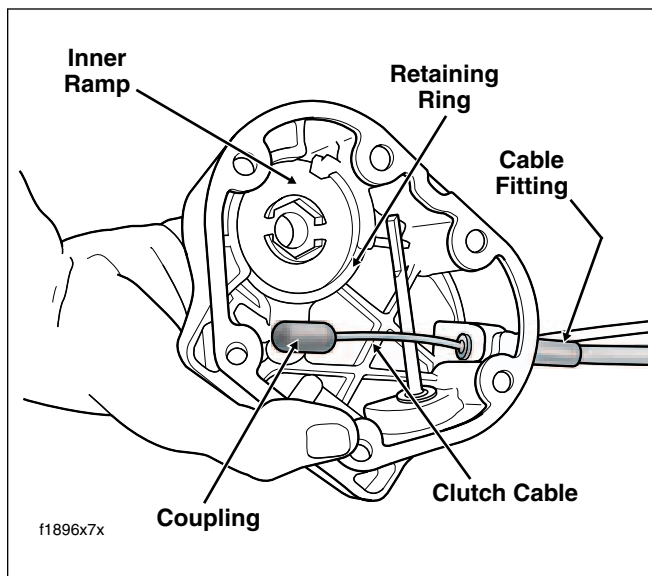

Figure 7-4. Clutch Release Cover Assembly
10. Remove retaining ring and lift inner ramp out of clutch release cover. Turn the inner ramp over so that ball sockets are facing outboard. Remove hook of ramp from button on coupling. Remove coupling from clutch cable end. See Figure 7-4.
12. See Figure 7-4. Install clutch cable fitting into clutch release cover. Do not tighten at this time.